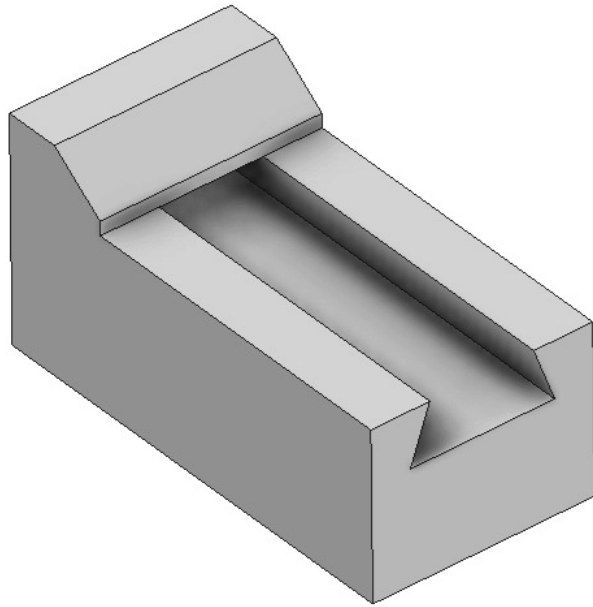

Figure 4
6. Your screen should look similar to Figure 4.